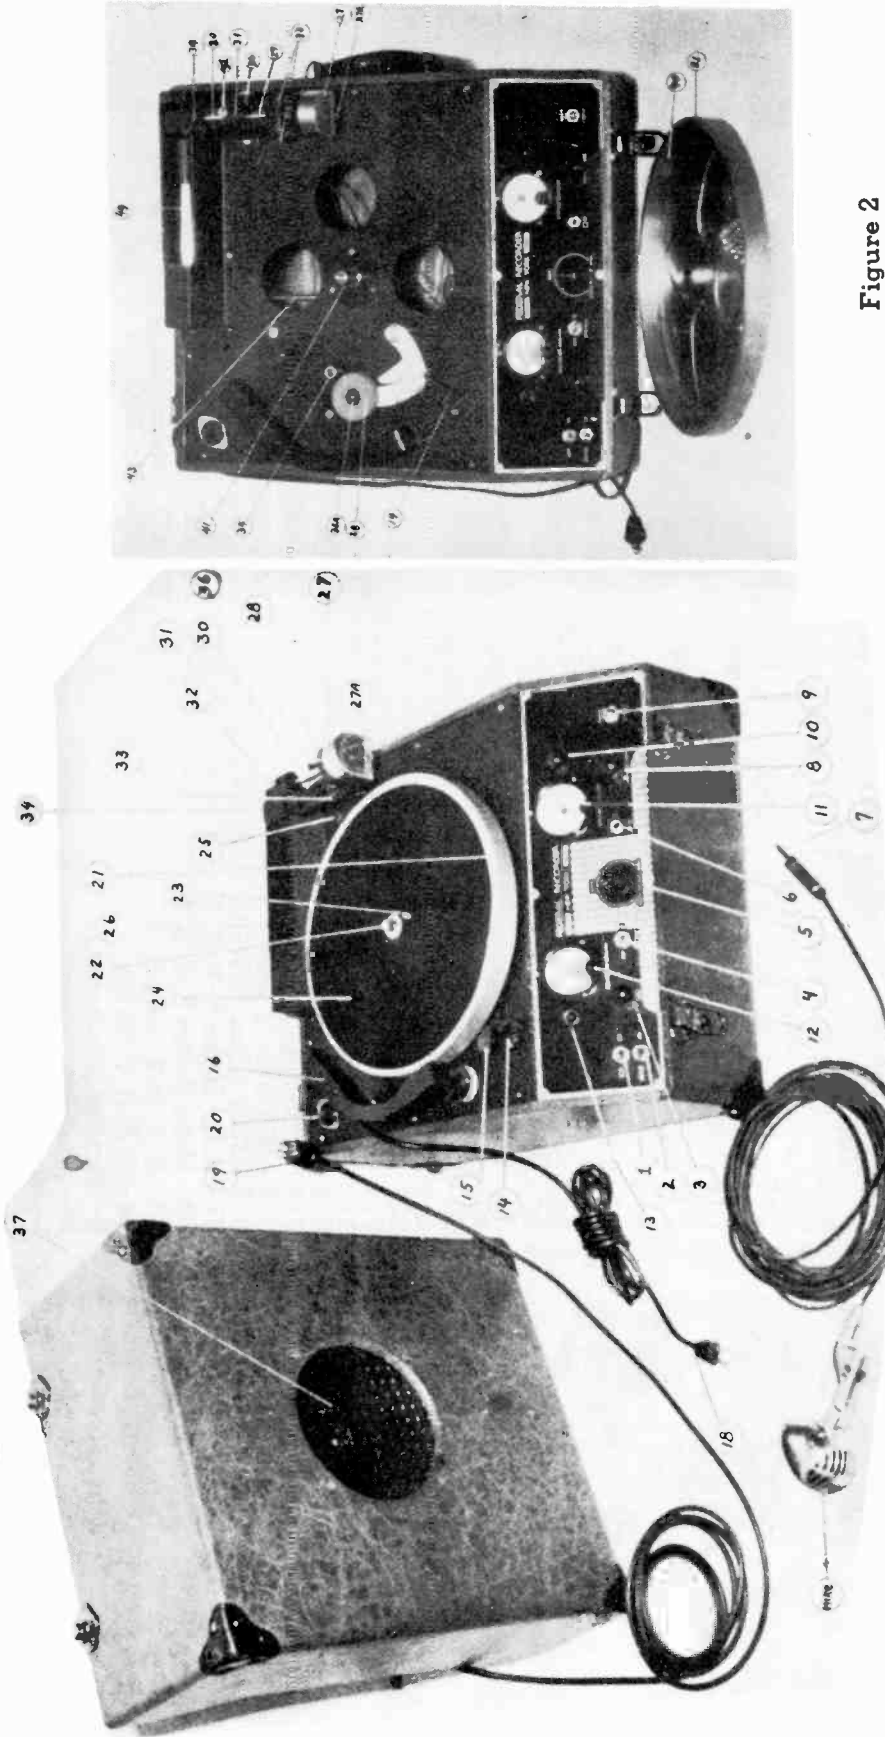

Figure 1
An antenna about thirty feet long will give satisfactory results. Connect to antenna binding post (25) in Figure 1. No ground is necessary.